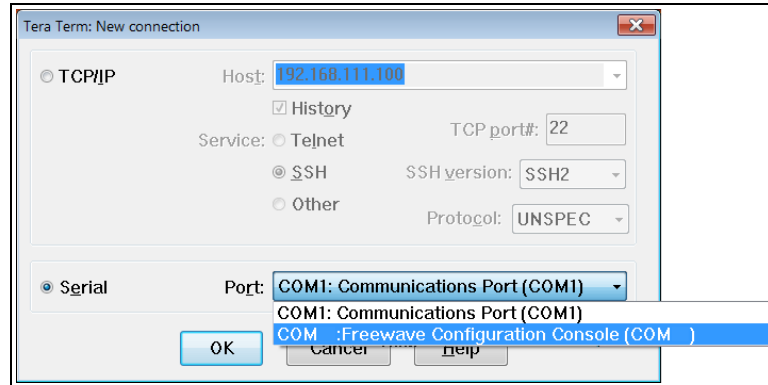

Figure 20: Select the Zum product COM Port
- Click the **Port** list box arrow and select the COM port the Z9-C or Z9-T is connected to. Figure 20